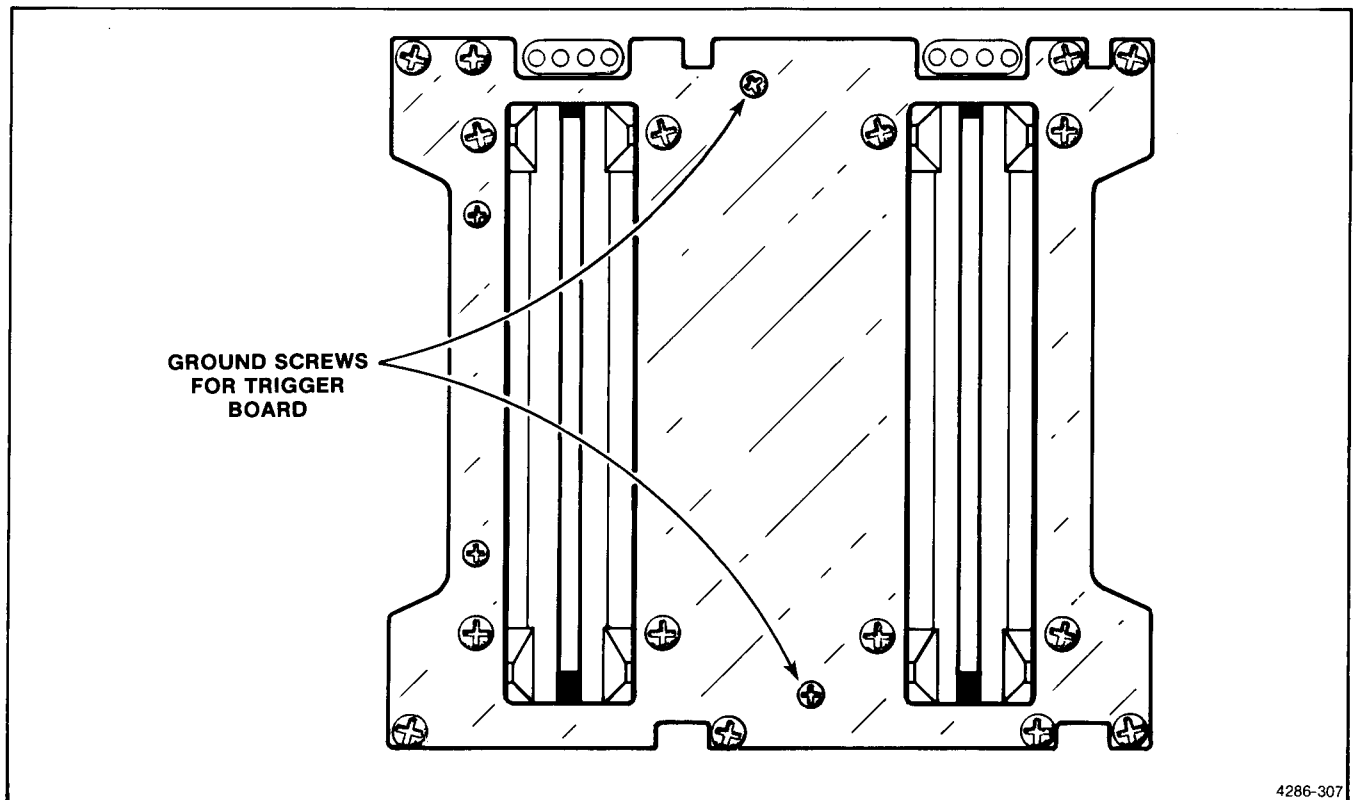

Figure 3-25. Trigger Board ground screws.
- Remove the two screws and nuts that fasten the two ground leads to the rear panel. See Figure 3-25.